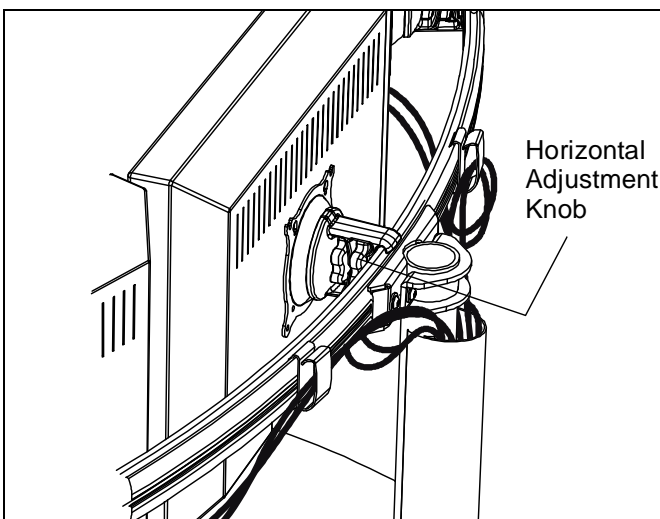

Figure 11
1. Loosen Centris bracket rear adjustment knob (See Figure 11).